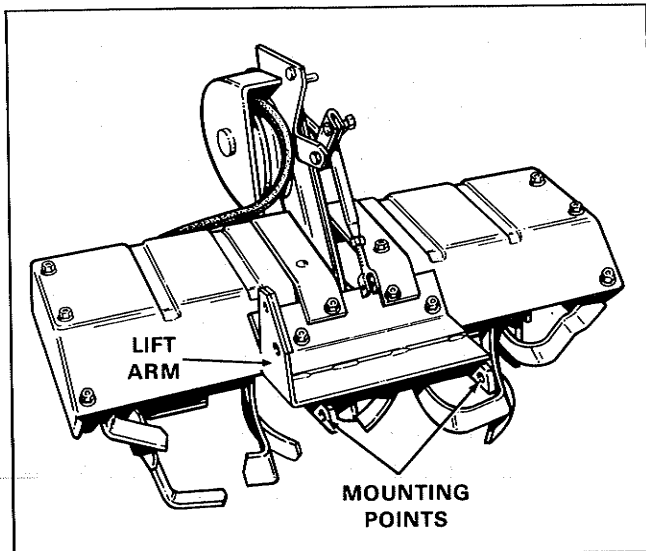
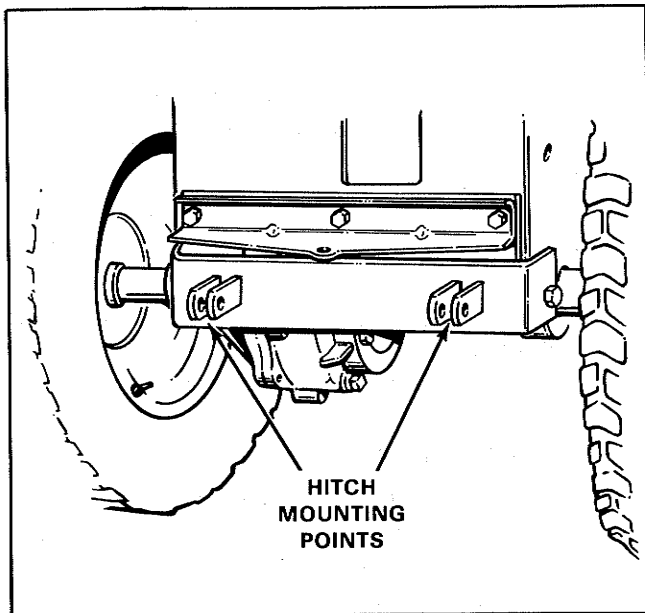

Figure 1. Tiller Mounting Points
Figure 2. Tractor Mounting Points
1. Back the tractor up to the front of the tiller. The tiller mounting points (figure 1) should be lined up with the hitch mounting points (figure 2).
3. Attach the tiller to the hitch with two pins and spring clips thru the mounting points shown in figures 1 and 2.